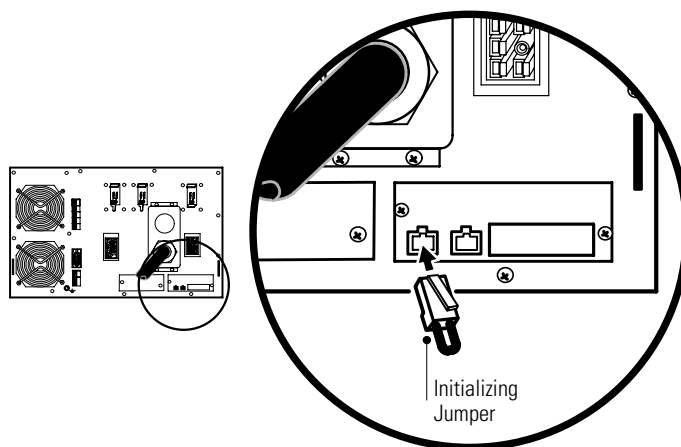
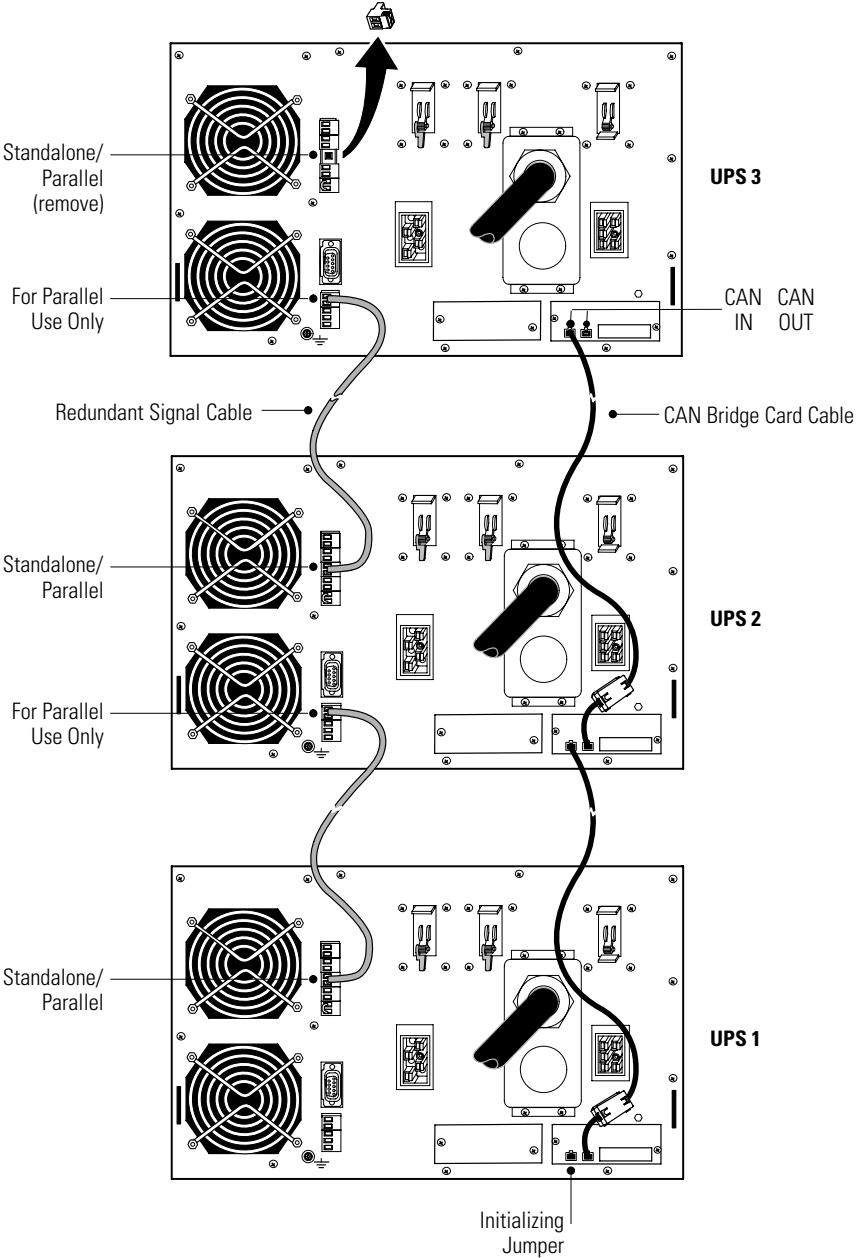

Figure 35. Installing the Initializing Jumper
Figure 36. Typical CAN Bridge Card and Redundant Signal Wiring
9. Install the supplied initializing jumper (see Figure 35) into the CAN IN port on the first UPS (UPS 1 in Figure 36).
10. Using the supplied connectors, install a CAN Bridge Card cable between each UPS as shown in Figure 36, connecting the CAN OUT port on one UPS to the CAN IN port on the next UPS.
NOTE You can configure the parallel system with UPS 1 at the bottom of the rack (as shown in Figure 36) or at the top of the rack.
11. Install a redundant signal cable between the For Parallel Use Only and Standalone/Parallel terminals on each UPS as shown in Figure 36. Remove the existing terminal block connectors before installing the cable.
12. Remove the Standalone/Parallel terminal block connector from the last UPS (UPS 3 in Figure 36).